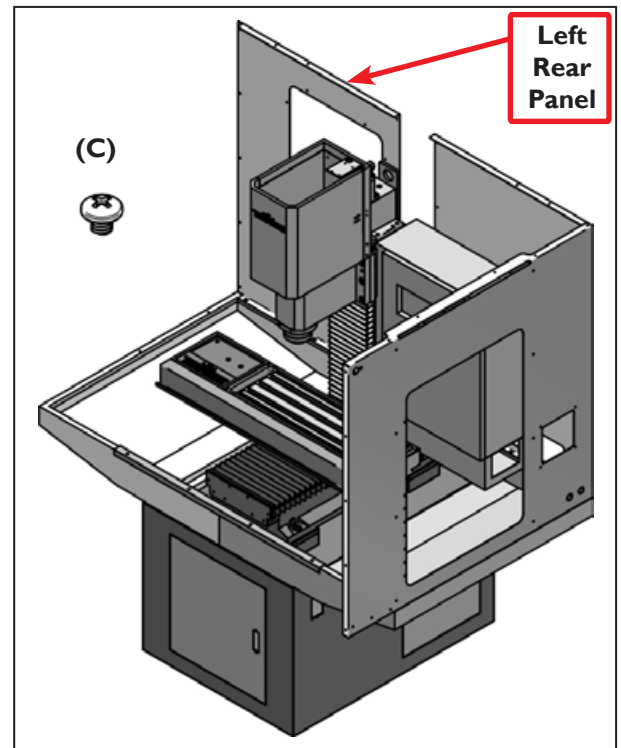

Figure 5
- 12.** Place the Left Rear Panel (E.24) on top of the left rear side of the machine stand (see **Figure 5**).